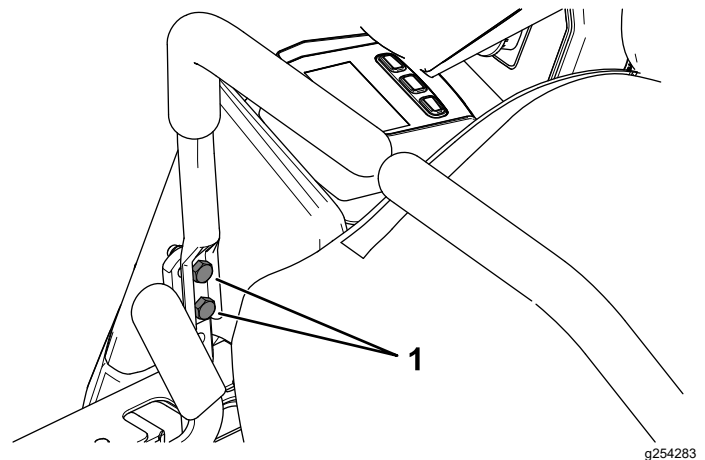

Figure 53
10. If alignment is needed, loosen the 2 motion-control lever mounting bolts on the misaligned side (Figure 53).
12. Tighten the 2 motion-control lever mounting bolts (Figure 53).